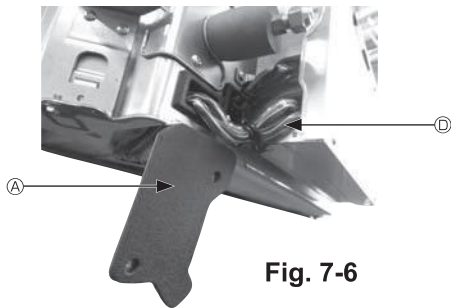

Fig. 7-6
- ① Remove the two screws securing the wire cover of the main unit, and then open the cover.
- ② Route the wires of the i-See sensor and signal receiver through the wire inlets in the electric component box as shown in the diagram and around the bushings on the side of the main unit. (Fig. 7-6)